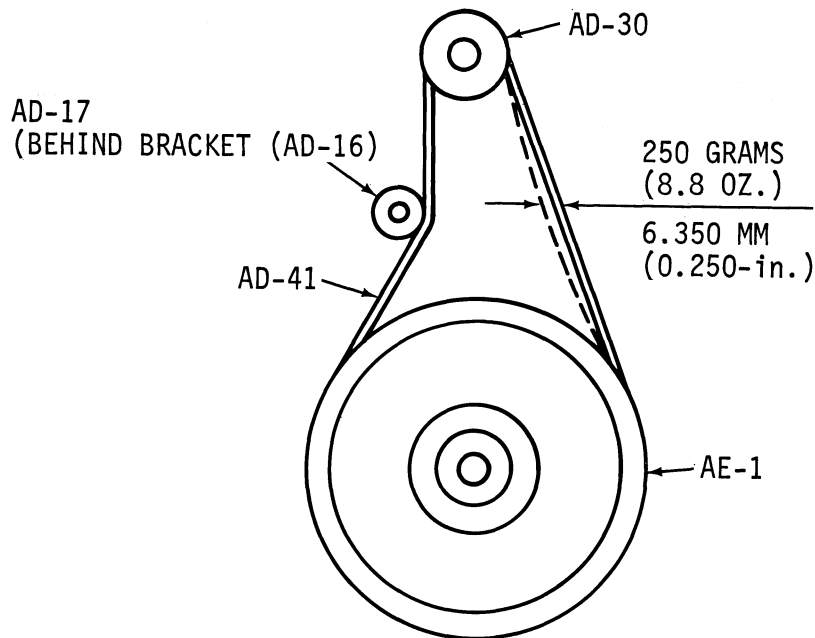

Figure 5-3. ADJUSTMENT OF TIMING BELT (AD-41)
C. Timing Belt (AD-41) (Refer to Figure 5-3)
2. Adjust position of tensioner (AD-17) so that movement of belt (AD-41) (side away from tensioner) when hand depressed with a pressure of 250 grams (8.8-oz.) travels inward to a maximum distance of 0.250-in. (6.350 mm). (See Figure 5-3)